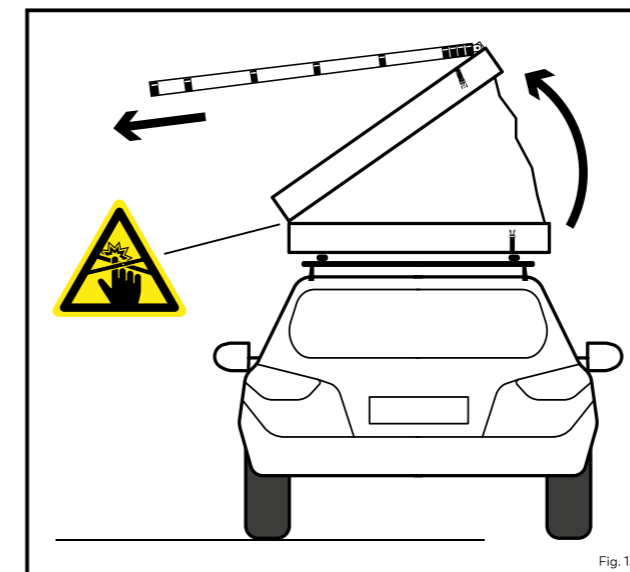

Fig. 13
6.4 Pull out the rungs of the ladder as far as necessary. You should hear the bars click into place (see Fig. 13)